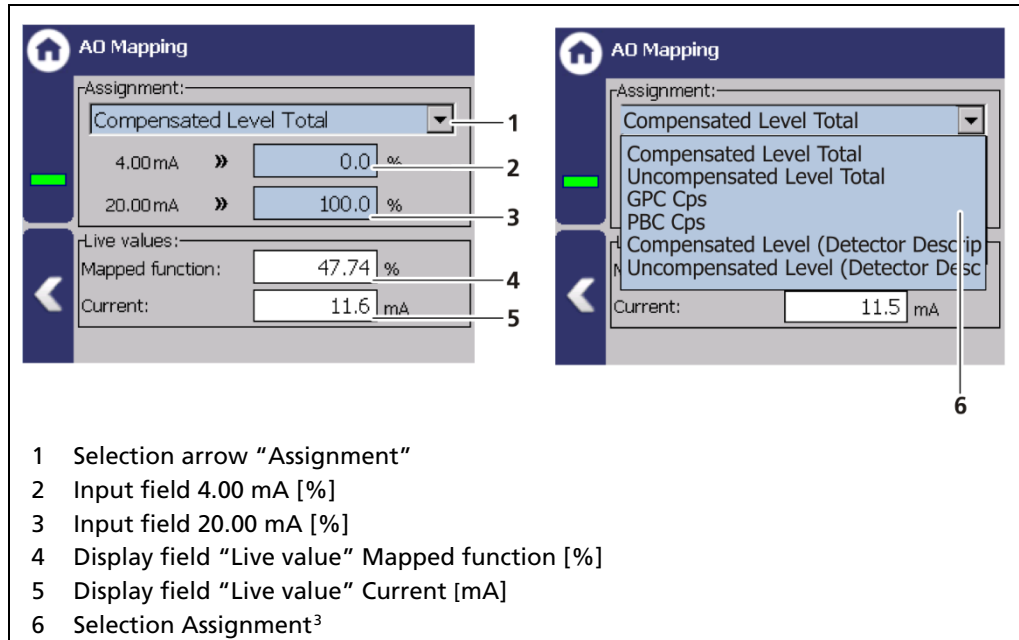
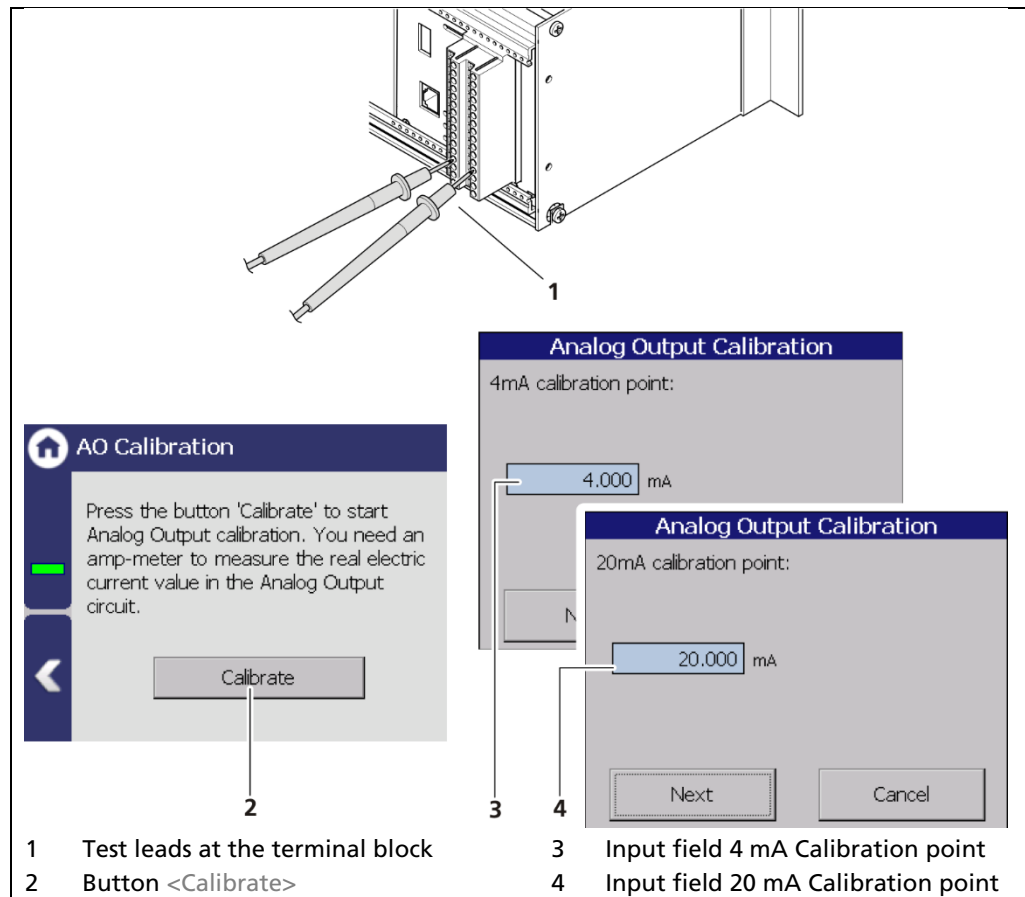

Fig. 96 Analog Output Mapping (Assignment)
Fig. 100 Analog Output (Calibration)
The lower and upper limit of the process range can be set in input field (Fig. 96, Item 2, item 3). These limits define the signal range of the analog current output (4 ... 20 mA). If required, the current output can also be set inversely (e.g. 4 mA = 100%, 20 mA = 0%).
1. Connect the test leads (Fig. 100, item 1) of the ammeter to the analog current output terminals on the rear of the EVU. Observe the terminal allocation in chapter 2.1 in the document "Technical Information".
2. Click on the button <Calibration> (Fig. 100, item 2).
3. Enter the indicated value on the current measuring instrument in the input box (Fig. 100, item 3).
5. Enter the indicated value on the current measuring instrument in the input box (Fig. 100, item 4).
The submenus of the additional outputs are identical to the AO submenus Fig. 96 Analog Output Mapping (Assignment) and Fig. 100 Analog Output (Calibration).